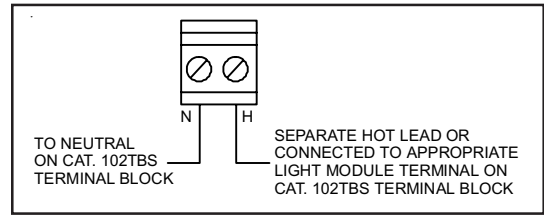

Figure 2. Wiring Cat. No. 102SIG*T with Optional Tone Module
- b. Connect additional field wiring to the terminal block mounted on the signal assembly as shown in Figure 2.